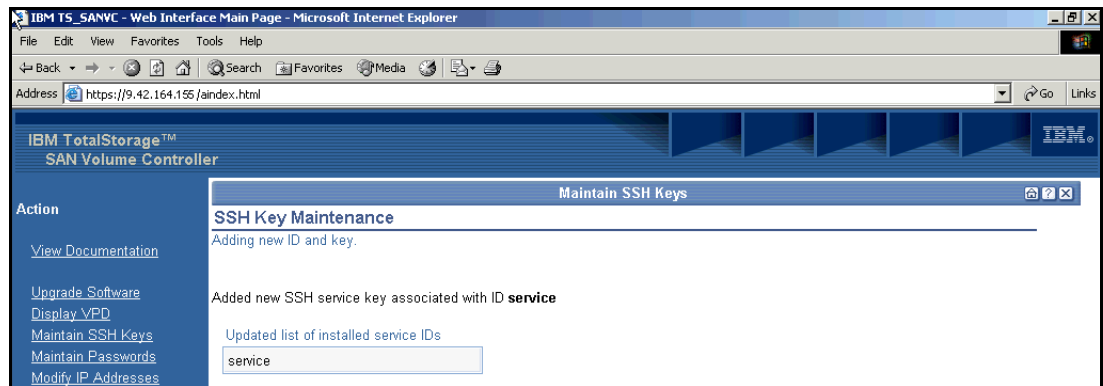

Figure 4-18 Adding SSH service Key Successful
6. On the next panel (Figure 4-18), a message appears indicating that a new SSH administrator key associated with the ID *service* was added. Close the Web interface.